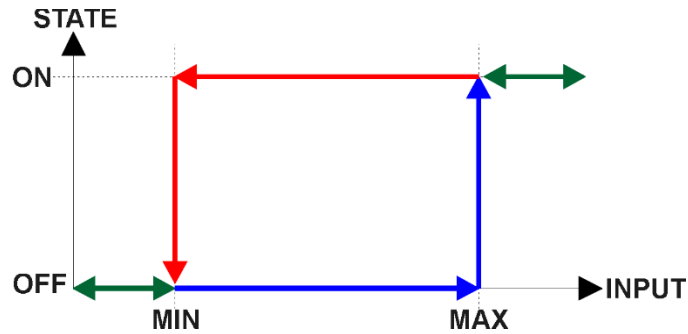

Figure 5 – Analog Input Read as Digital
There is another type of 'digital' input that can be selected when 6112h is set to 20 = Analog On/Off. However, in this case, the input is still configured as an analog input, and therefore the objects from the Analog Input (AI) block are applied instead of those discussed above. (This case applies to all the inputs 1 to 4) Here, objects 2010h, 2020h and 2030h are ignored, and 6020h is written as per the logic shown in Figure 5. In this case, the MIN parameter is set by object 7120h **AI Scaling 1 FV**, and the MAX is set by 7122h **AI Scaling 2 FV**.